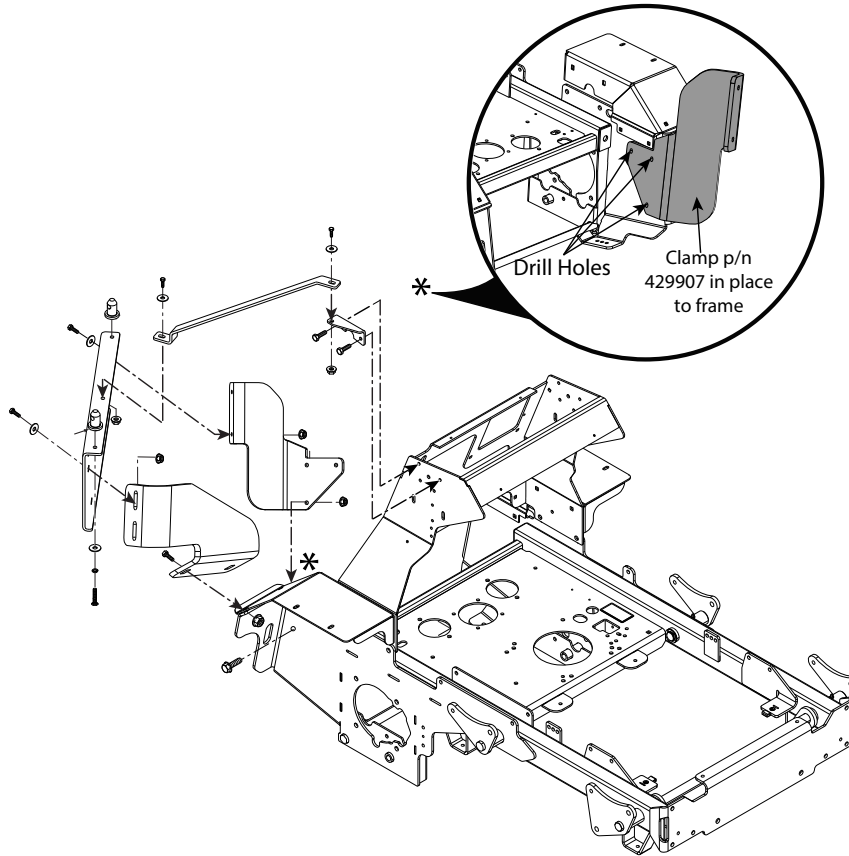

Figure 2-10. Hopper Assembly
1. Aligning the mounting bracket with the fender, clamp the LH mounting bracket (p/n 429907) to the frame as shown in Figure 2-10*.
2. With help from an assistant, install the grass catcher mounting weldment assembly. See Figure 2-10.